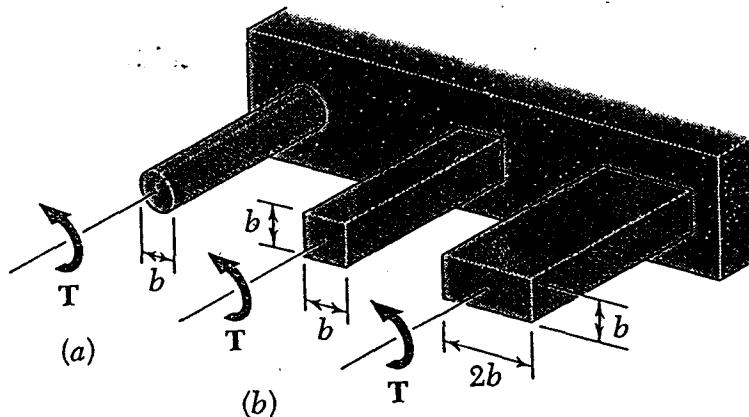

Figure 4: Aluminum Bars
- [c] A torque of magnitude $T = 300 \text{ N}\cdot\text{m}$ is applied to each of the aluminum bars as shown in Figure 4. Knowing that $\tau_{all} = 60 \text{ MPa}$, determine the required dimension b of each bar.